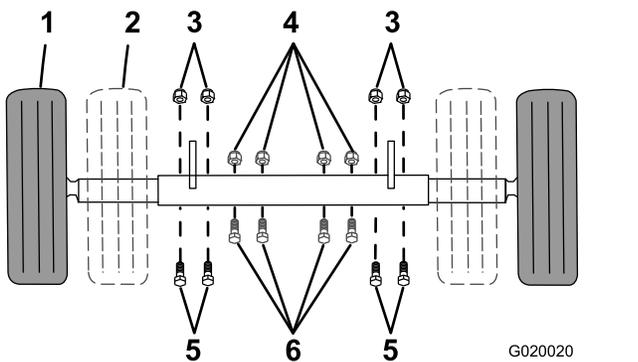

Figure 28
1. Support point (2)
4. Remove the bolts and nuts that secure the inner axle to the outer axle (Figure 28).
- Slide each side of the axle inward to the narrow position (Figure 28).
- Slide each side of the axle outward to the wide (tow) position (Figure 28).
7. Insert the bolts through the axle holes (Figure 28).